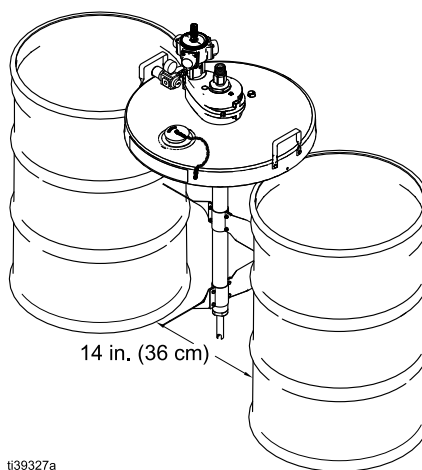

Fig. 4: Assembling and Positioning Agitator Without an Elevator
2. Rotate the agitator so that the air motor is to the left of the shaft, as shown in Fig. 4. In this position, the three tapped holes in the bottom of the agitator align with the three through holes in the drum cover.
3. Thread the three hex head screws (25) up through the drum cover and into the agitator. Torque the screws to 75 in-lb (8.4 N•m).
4. Assemble one pair of agitator blades (28) so that the four through holes in the blade halves are lined up. For blade orientation, see **Models 26B630, 26B631, 238250**, page 34 and **Models 26B632, 26B633**, page 38.
5. Push four cap screws (31) through the four holes in the blades, and start the lock nuts (32) onto the cap screws.
7. Tighten the four lock nuts (32) evenly to draw the blades together until they are tight on the shaft. Torque the locknut to 50–55 in-lb (5.6–6.2 N•m). A gap will remain between the blade halves.
9. Position the second blade assembly near the bottom end of the shaft, but not on the bottom plug (20).
10. Rotate the lower blade assembly so that it is oriented 90 degrees relative to the upper blade assembly. Torque the lock nuts (32) to 50–55 in-lb (5.6–6.2 N•m). A gap will remain between the blade halves.